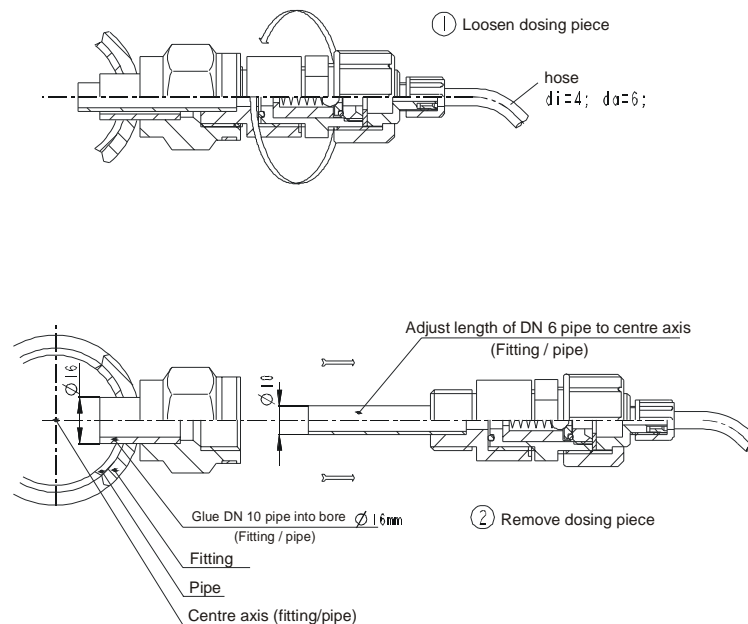

Fig. 8: Installation drawing dosing group 2.70
- The dosing point 2.70 must be mounted according to the installation drawing (fig. 8).